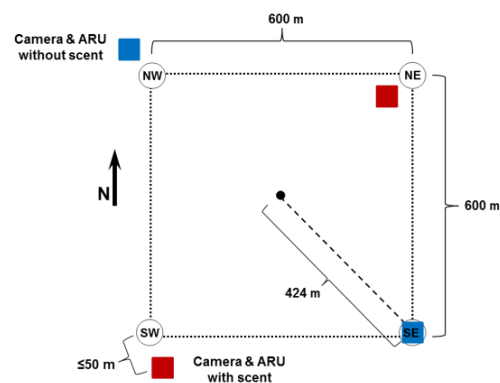

Figure 2. Baseline Survey: Cameras and ARUs are placed near the corner of a 600 x 600m square centered on an ABMI site. The NE and SW corners are scented.
- Scent is placed at the NE and SW stations at deployment (Figure 2).